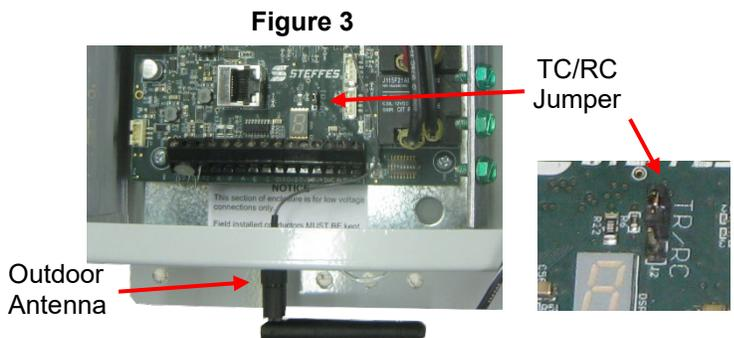

Figure 3
- a) To use as a transmitter, place the select jumper on the TR position covering the top and center pins. (Figure 3)
- b) To use as a receiver, place the select jumper to the RC position covering the bottom and center pins. (Figure 3)
- b) **Outdoor Transceiver:** Remove the antenna from packaging. Connect the antenna to the threaded cable port at the bottom of the transceiver enclosure as shown in Figure 3.